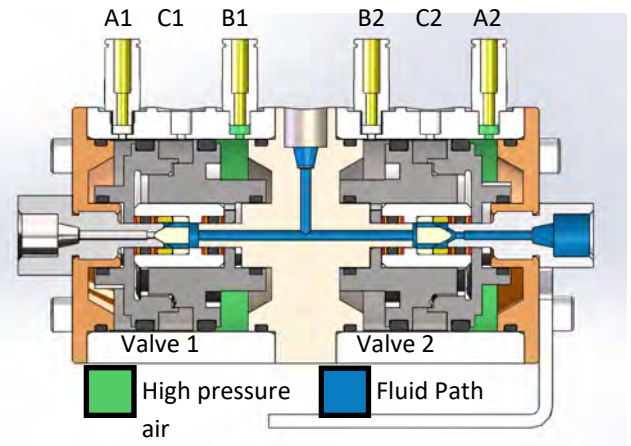

Figure 2.3 Closed/Open Valve
2.2.1.2 Closed/Open Position (B1 / A2) Fig. 2.3